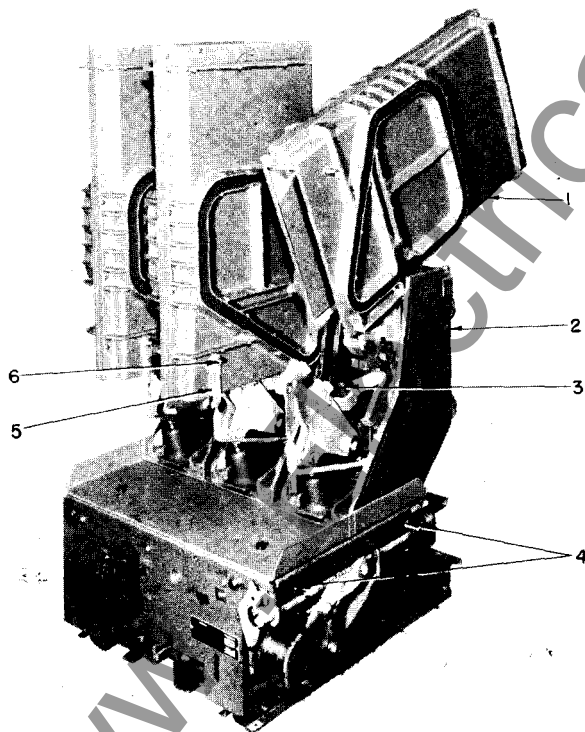
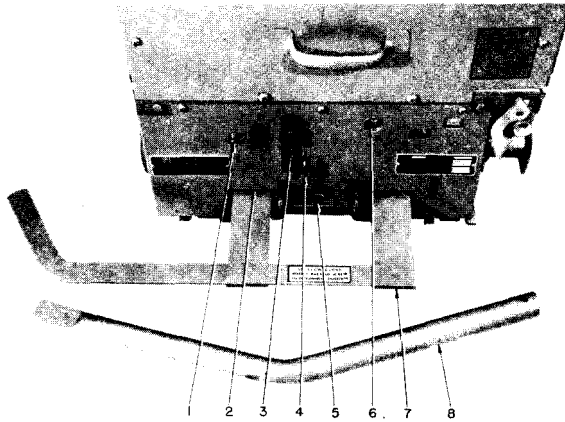

Fig. 1 — View Showing Arc Chute and Contact Structure
Fig. 2 — Front View of Control Panel
IF IT IS NECESSARY TO RAISE OR MOVE THE BREAKER, ATTACH THE LIFTING YOKE AT POINTS 4 (FIGURE 1), OR A FIFTH WHEEL AT POINT 5 (FIGURE 2) TO TRANSPORT THE BREAKER AS REQUIRED.
3.4 REMOVING ARC CHUTES (See Figure 1)
3.7 MANUAL SLOW-CLOSE TO CHECK CONTACT PRESSURE (Figure 2)
3.8 INSTALLING ARC CHUTES (See Figure 1)
3. Lift the barrier slightly by its handle at the lower front (Figure 2) to permit the rear brace of the barrier to drop down behind the arc chutes.
3.10 INSTALLING CIRCUIT BREAKER INTO COMPARTMENT (See Figures 2 and 3)
1. Turn motor disconnect switch (if supplied) (1, Figure 2) to "OFF" position.
3. Engage fifth wheel with hole guide (5, Figure 2) and push circuit breaker into compartment until stopped.
6. With the circuit breaker racked to "TEST" position, check for proper operation by operating all possible means of opening and closing. This includes control switches, relays, etc. Turn motor disconnect switch (1, Figure 2) to "ON" position to charge the closing springs, and operate the breaker as required. If motor disconnect switch (1, Figure 2) is not provided, springs will automatically charge when approaching "TEST" position.